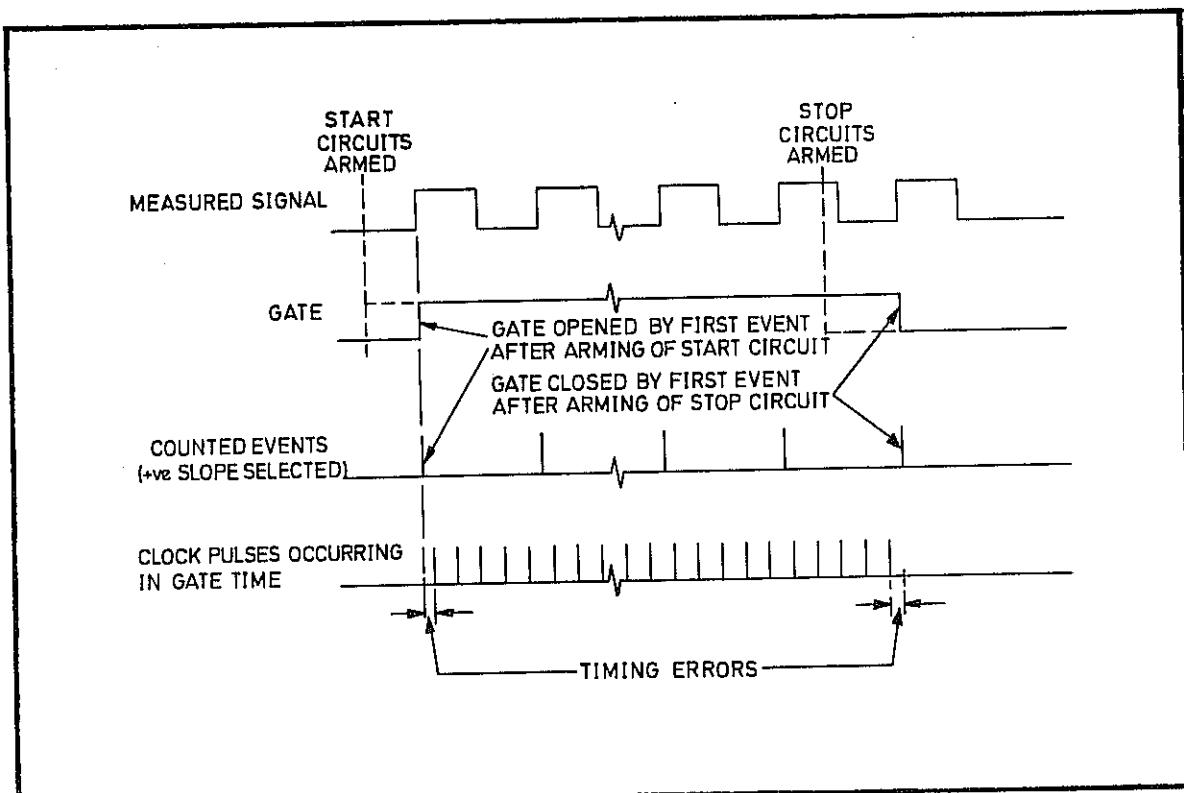

Fig 6.5 Basic Recipromotic Counting Technique
- 38 The circuits within MCC1 and MCC2 are configured by the microprocessor according to the measurement function in use. The recipromotic counting technique is used. With this technique the measured signal, not the counter clock pulses, controls the start and stop of the measurement period (gate time) as shown in Fig 6.5. The gate time therefore extends over an integral number of cycles of the measured waveform. The gate time is measured by counting the clock pulses which occur while the gate is open. This leads to timing errors at both ends of the gate time, as shown. The TEC circuit enhances the measurement accuracy by compensating for these errors.